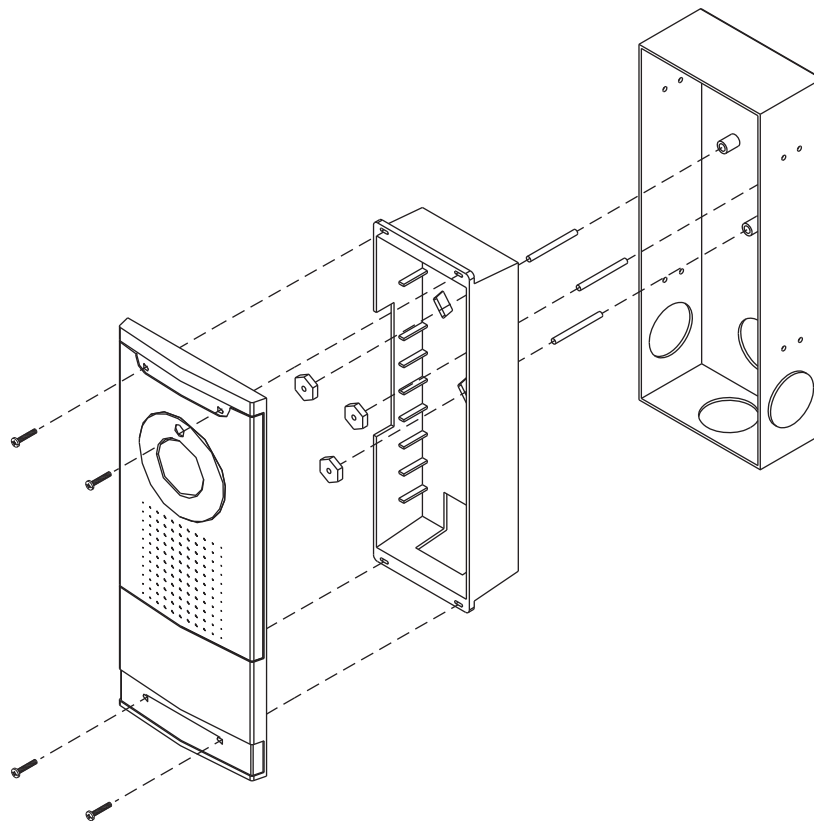

Figure 3
6) Place the door station on top of the metal backbox. While holding the door station in place, screw the 4 supplied screws into the openings on the top and bottom of the door station (**Figure 3**). Make sure the screws attach into the slots on the plastic backbox. Gently tighten the screws until the door station is securely fastened to the backbox. Do not over tighten the screws.